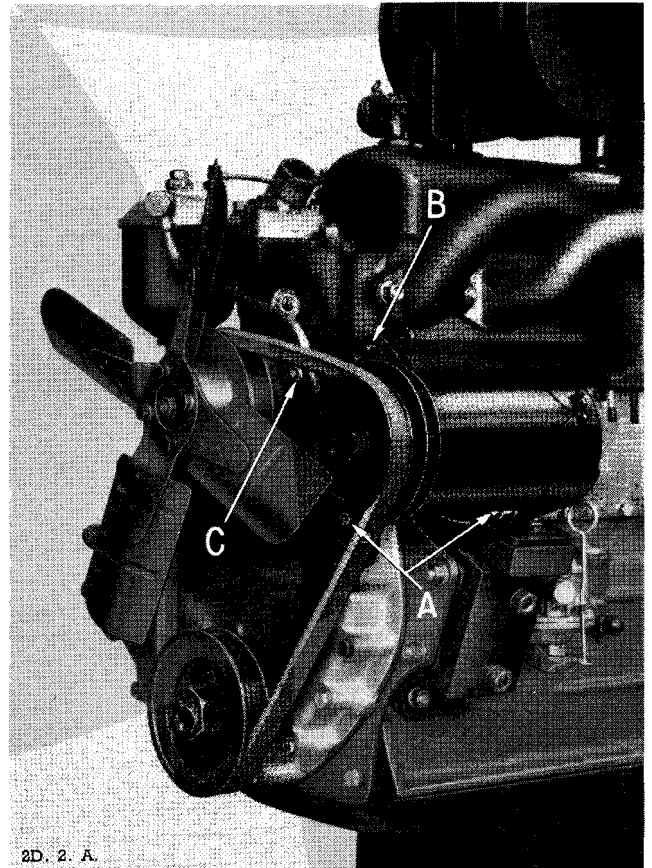

Fig. D1. Fan belt adjustment
1. Referring to Fig. D1 slacken the dynamo securing bolts (A). Support the dynamo with one hand and release the set bolt (B) and the nut and bolt (C).